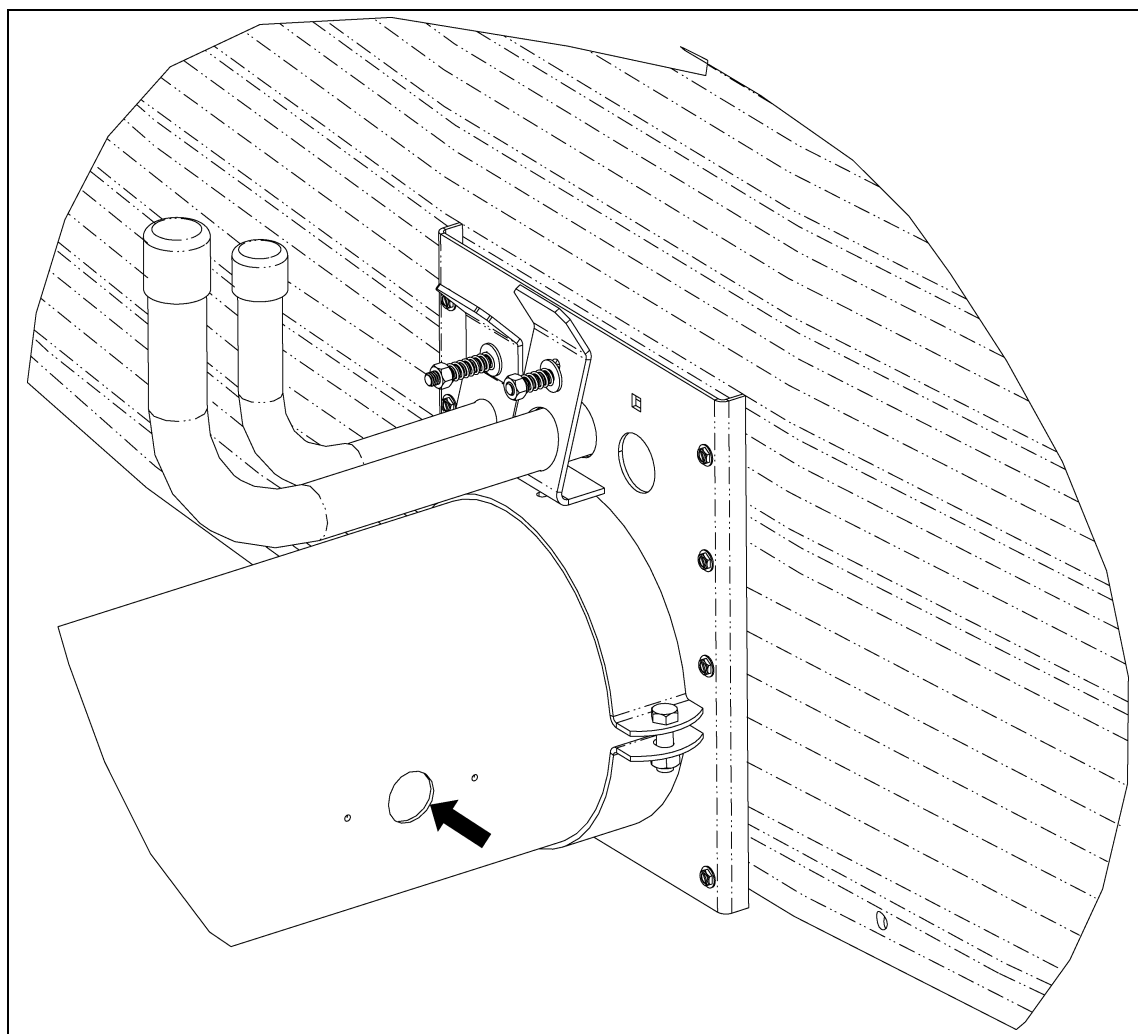

Figure 5Z
25. The sampler may be installed on either side of the discharge tube. If a vertical auger is being attached, a separate sampler is provided for use with the vertical auger. Locate the three (3) small pilot holes on the side of the discharge tube. Drill the outside holes to 5/32" diameter and the center hole to 1-1/4" diameter. *(See Figure 5Z.)*